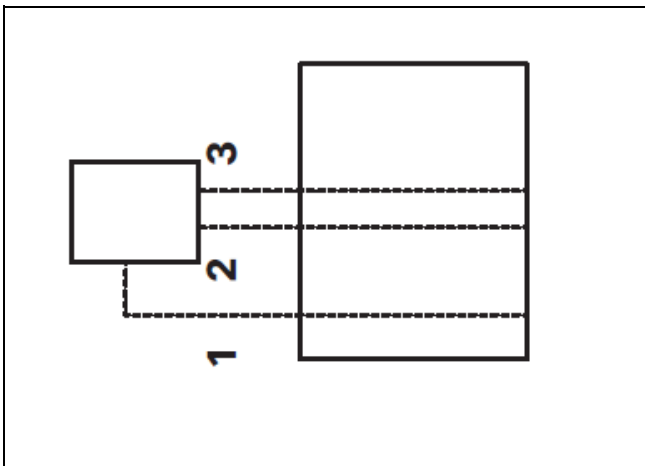

Figure 58
3. Make the electrical connection. See Figure 58.